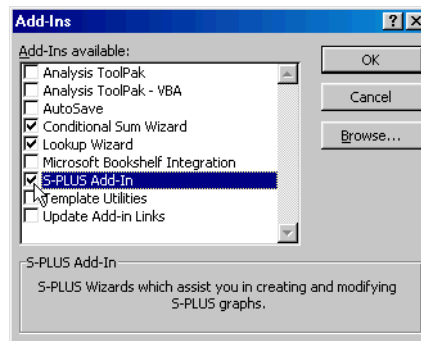

Figure 10.10: The **Add-Ins** dialog in Excel with the **S-PLUS Add-In** checked.
4. In the **Add-Ins** dialog, select the **S-PLUS Add-In** check box, as shown in Figure 10.10, and click **OK**.
4. In the **Add-Ins** dialog, clear the **S-PLUS Add-In** check box (see Figure 10.10.) and click **OK**.